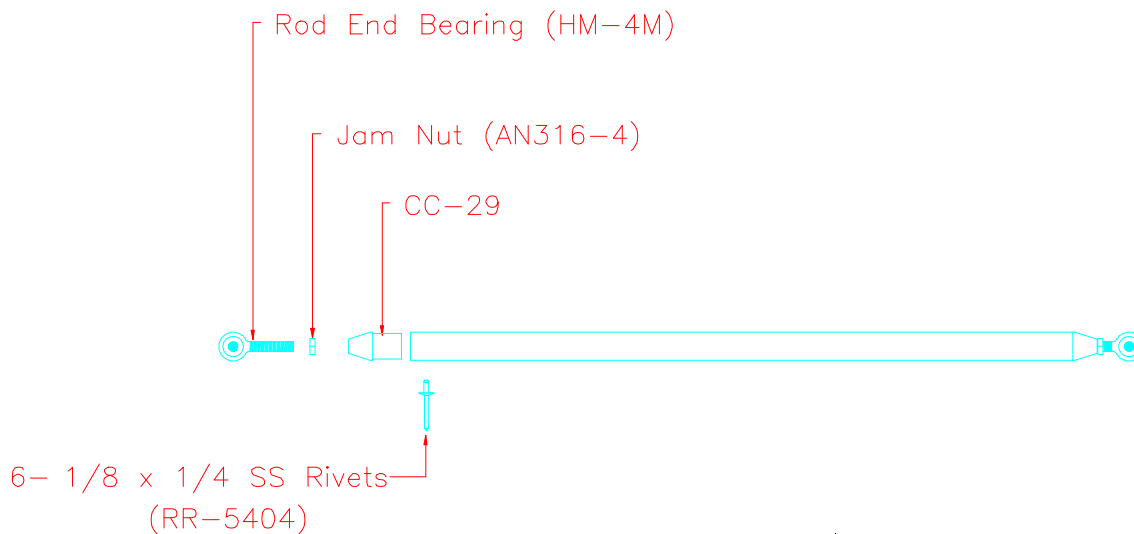

Figure 1.36.1
The length of the tubing will be determined by the distance between the two Rod End Bearings. Figure the total length between centers and subtract the head of the end plugs from both ends and the length of the End Bearings from the center of the hole back to the jam nut with three to five threads showing at the top of the bearing. Cut the tube. Debur the ends of the tubing and insert the appropriate CC End Plug. On the tube draw a line 3/8" in from the ends and layout an equally spaced rivet pattern for four (4) rivets. Drill #30 holes. Remove the End Plugs. Debur, zinc chromate and re-install the parts and rivet together using RR-5404 1/8" x 1/4" SS rivet. Figure 1.36.1.